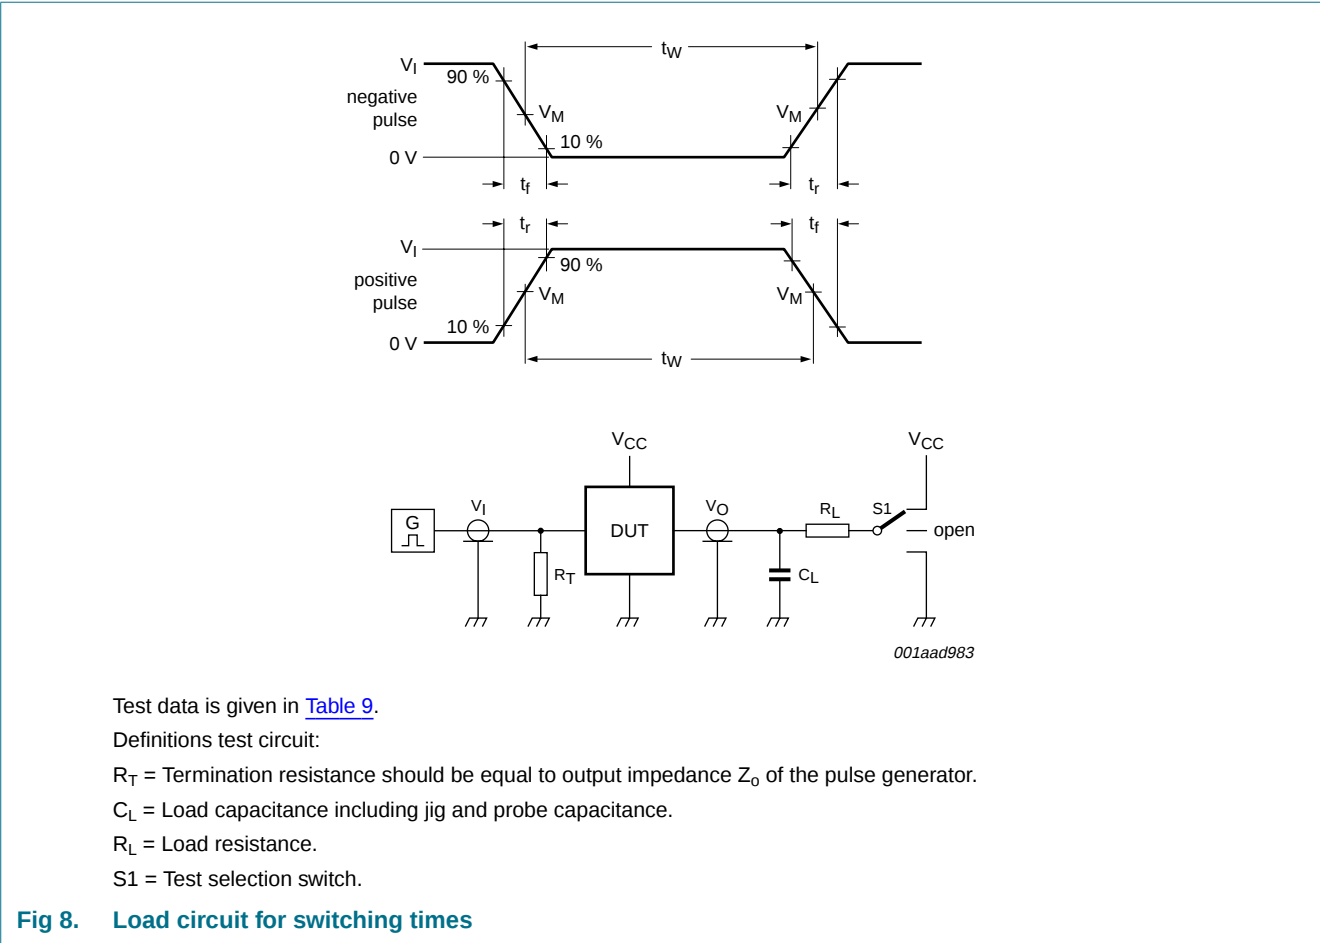

Fig 8. Load circuit for switching times
*GND = 0 V; For test circuit see Figure 8.*
GND = 0 V; For test circuit see Figure 8.